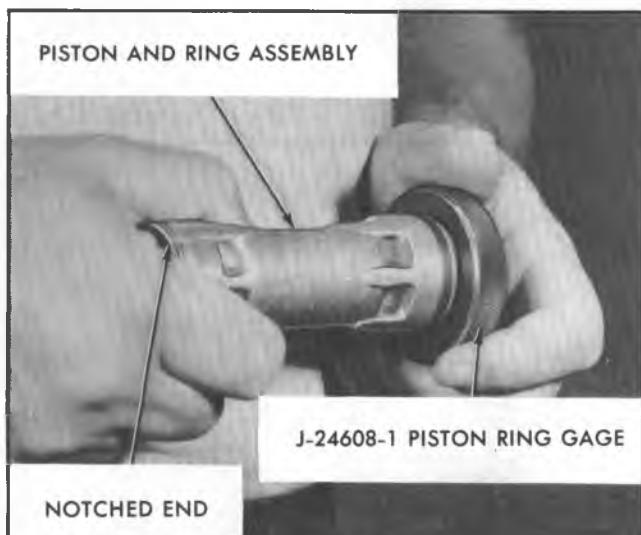

Fig. 49--Gaging Piston Ring Size
8. Remove the Piston and Ring Assembly, wipe the end of the piston and ring area with a clean cloth and then push the Piston and Ring Assembly into the Ring Gage J-24608-1 (Fig. 49). The piston should go through the Ring Gage with a 6-lb. force or less without lubrication. If not, repeat Steps 6 and 7.